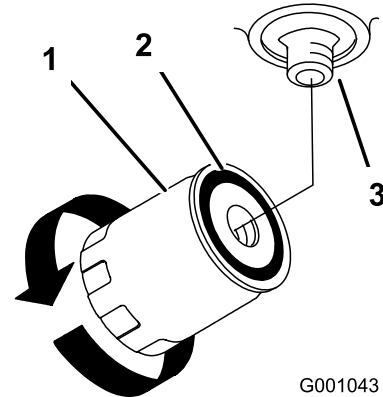

Figure 73
- Apply a thin coat to the rubber gasket on the replacement filter (Figure 73).
- Fill the hydraulic tank with hydraulic fluid until the fluid overflows the filter and then turn the oil filter clockwise until the rubber gasket contacts the filter adapter, then tighten the filter an additional 1/2 turn (Figure 73).